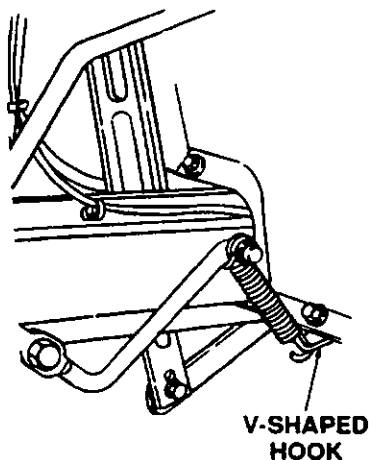

Figure 31
7. Install lower end of each spring into the V-shaped hooks located at lower front of each rear fender. (Refer to Figure 31.)